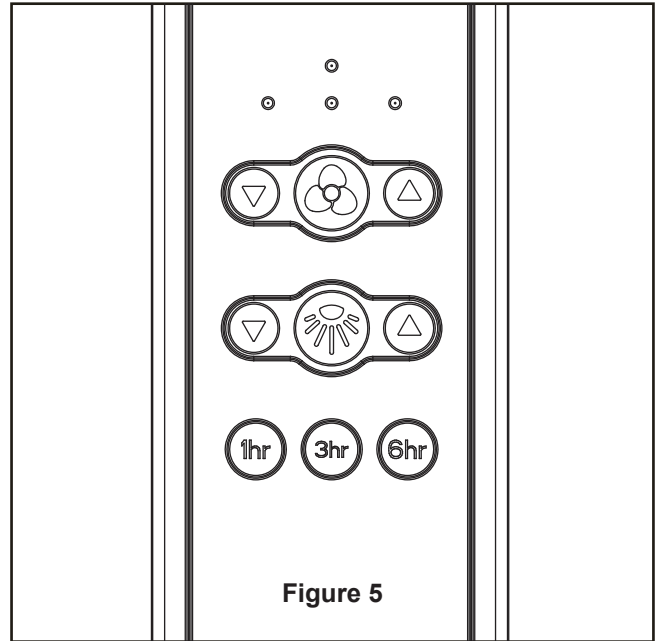

Figure 5
5. Assemble the LED kit to the housing assembly using the two key slots. Replace the previously removed screw and securely tighten all three screws. (Figure 5)
4. After connections have been made, the wires should be spread apart with the grounded conductor and the equipment-grounding conductor on one side of the outlet box and the ungrounded conductor on the other side of the outlet box, then turn leads upward and carefully push leads into the outlet box, with the white and green leads to one side of the box and the black leads to the other side. (Figure 5)
5. Remote functions: (Figure 5)